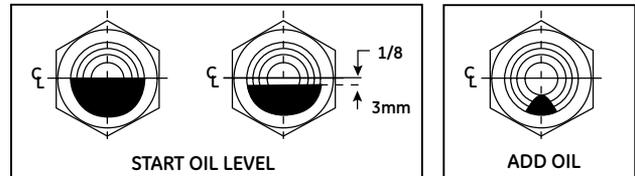
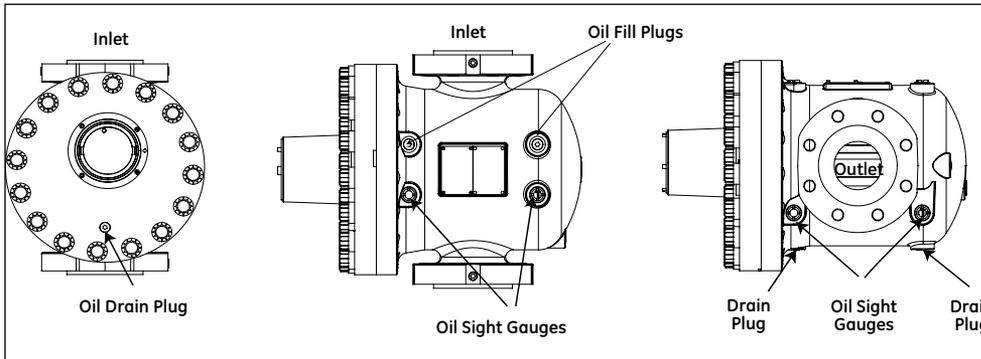

Figure 5 - Fill oil reservoirs to mid level of sight glass
Figure 6 - Oil fill/drain plugs and oil level sight gauge locations
- Oil is shipped with each new meter in a quantity sufficient to fill the meter body reservoirs in either a Top Inlet or a Side Inlet configuration. Slowly add oil to the meter body end reservoir until the oil level is to the center of the oil gauge (sight glass) as shown in Figure 5. Refer to Figure 6 for oil fill/drain plugs and sight glass locations. **DO NOT OVERFILL.**